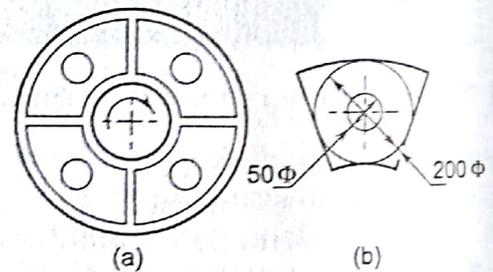

Fig. 16.36
16.3 ③ A hydrostatic thrust bearing consists of four pads as shown in Fig. 16.36(a). Neglecting the flow over corners, each pad can be approximated as a circular area of outer and inner diameters of 200 mm and 50 mm respectively, as shown in Fig. 16.36 (b). The thrust load is 300 kN and the film thickness 0.1 mm. The viscosity and specific gravity of the lubricating oil are 250 SUS and 0.88, respectively. Calculate the supply pressure and flow requirement. [LO 3]